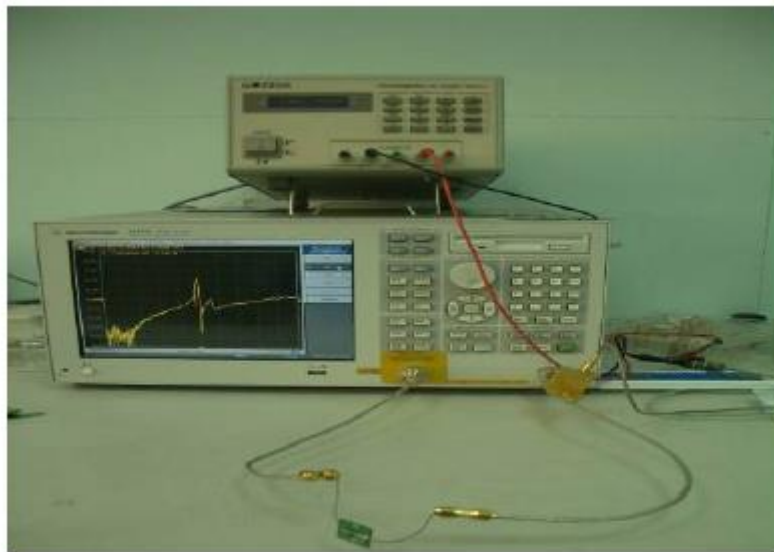

Figure 4. Network Analyzer
- a. Equipment: Network Analyzer (Aglient E5071B)(Fig.4)